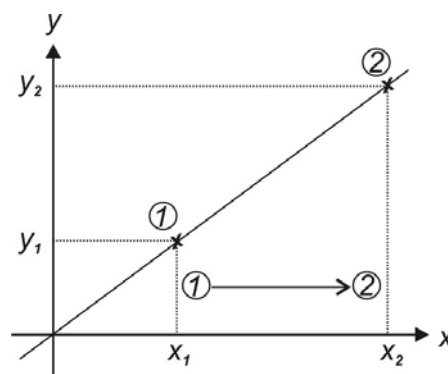

Fig. 1 A directly proportional relationship.
9. If the relationship between the dependent and the independent variable is linear as in **figure 1**, then the relationship between the two quantities is of the form:
If a variable y is directly proportional to another variable x , i.e. $y \propto x$ or $y = mx$, then the graph will be a straight line which passes through the origin (**figure 1**). m , the proportionality constant, is the gradient of the graph.
2. Determine and clearly indicate on your graph, the change in resistance per unit change in the temperature, that is $\Delta R / \Delta T$, or gradient of the graph. Choose points 1 and 2 as far as possible from each other - see **figure 1** - and do not use data points. Do not forget the units of the gradient when you state its value.